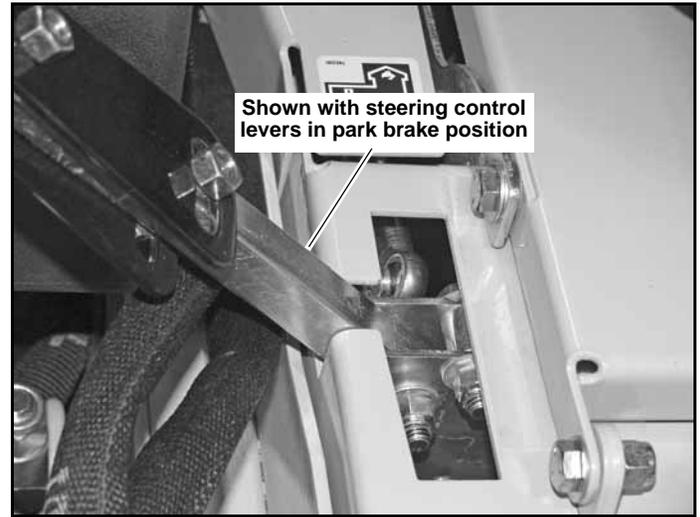
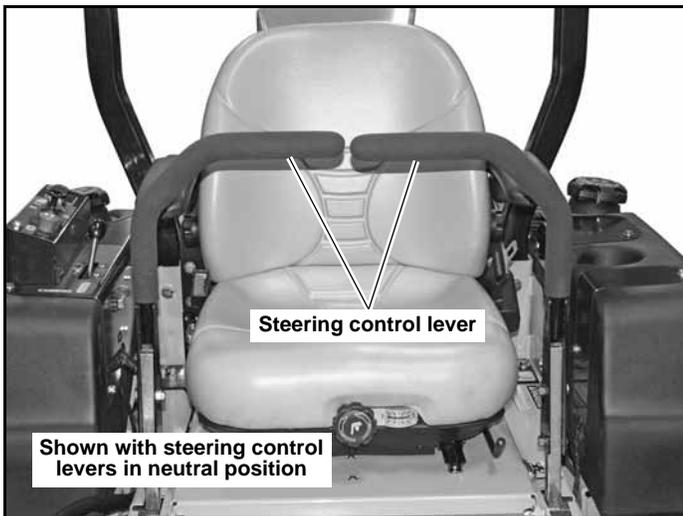

Figure 3-5
Figure 3-4
- L. Steering control levers (Figure 3-4 & Figure 3-5)** — these levers control the mower’s speed, direction, stopping, and park brake. These levers are used to steer, accelerate, decelerate and change direction. When the steering control levers are in the park brake position the